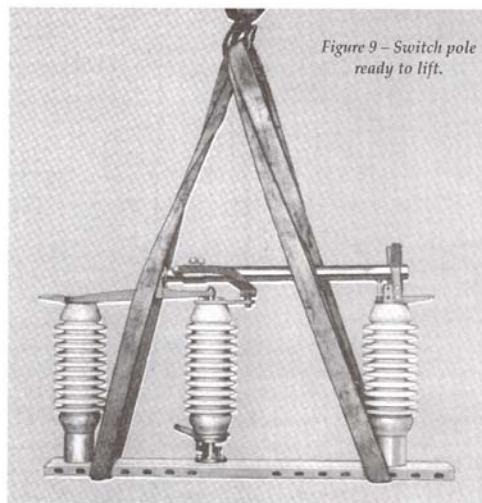

Figure 9 – Switch pole ready to lift.
**A. CAUTION: Rigging used to lift switch poles should be attached to base!** Lift poles onto structure, making sure the switch pole is in the closed and toggled position (Figure 9). It may be desirable to tie the fork to the strut to insure that the blade does not come open during lifting. Refer to the control arrangement drawing for proper placement of switch poles on structure.